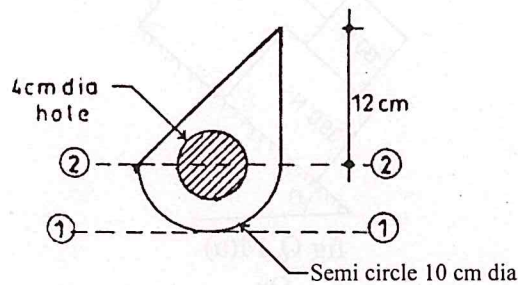

Fig.Q.16 (a)
16. (a) For the section shown in Fig.Q.16 (a) below, determine the moment of inertia about 1-1 and 2-2 axis.